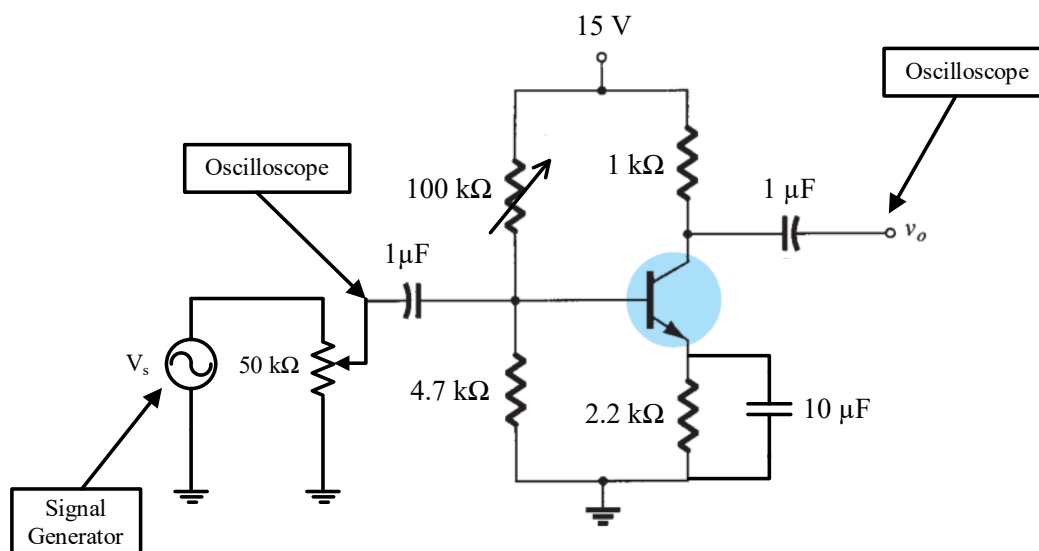

Fig. 5.1. Circuit diagram for implementing single-stage BJT amplifier.
1. Connect the circuit according to Fig. 5.1 without the capacitors.
- 1. Connect the circuit according to Fig. 5.1 without the capacitors.